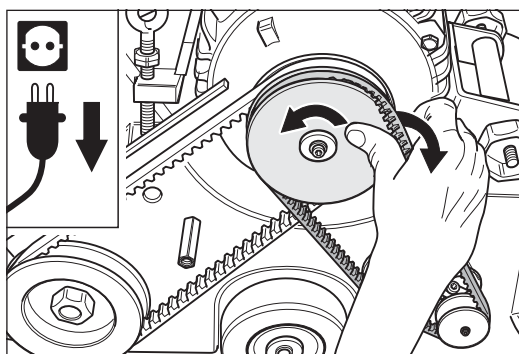

Fig. 50 Remove the suction V-belt.
- 7 Turn the motor pulley and allow the suction V-belt to run off the motor pulley (Fig. 50).